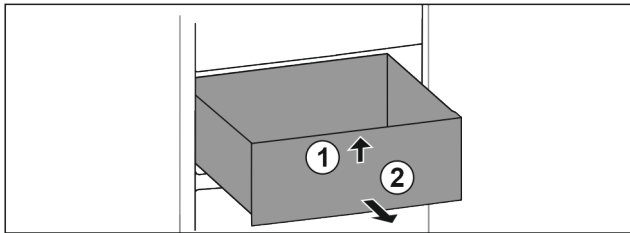

Fig. 92
- ▶ Lift drawer at the front. Fig. 92 (1)
- ▶ Remove drawer to the front. Fig. 92 (2)